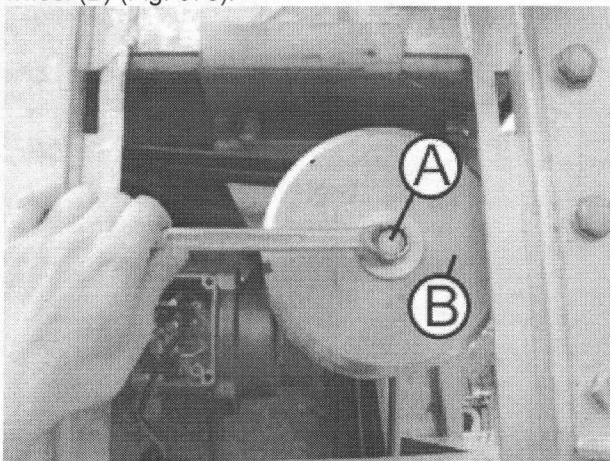

Fig. 078
5. Loosen safety screw (A) of the pulleys and remount without washer. Remove first separating wheel (B) (Fig. 078).